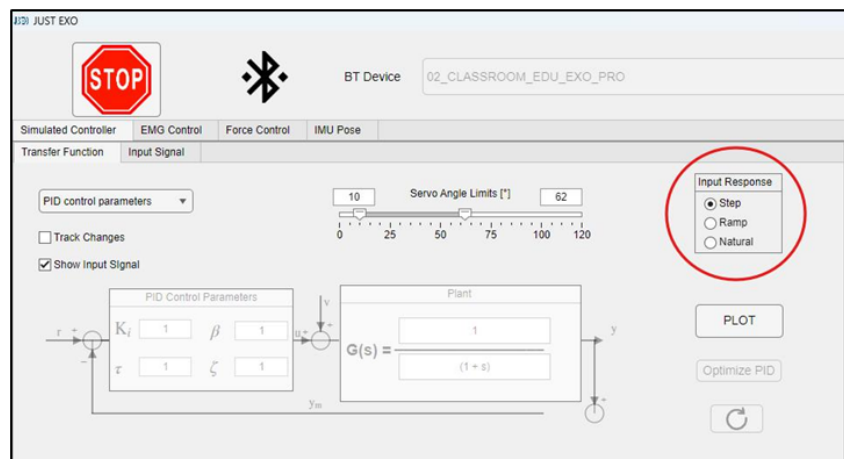

Figure 12: Choosing the input response.
2. Choose input response, see Figure 12.